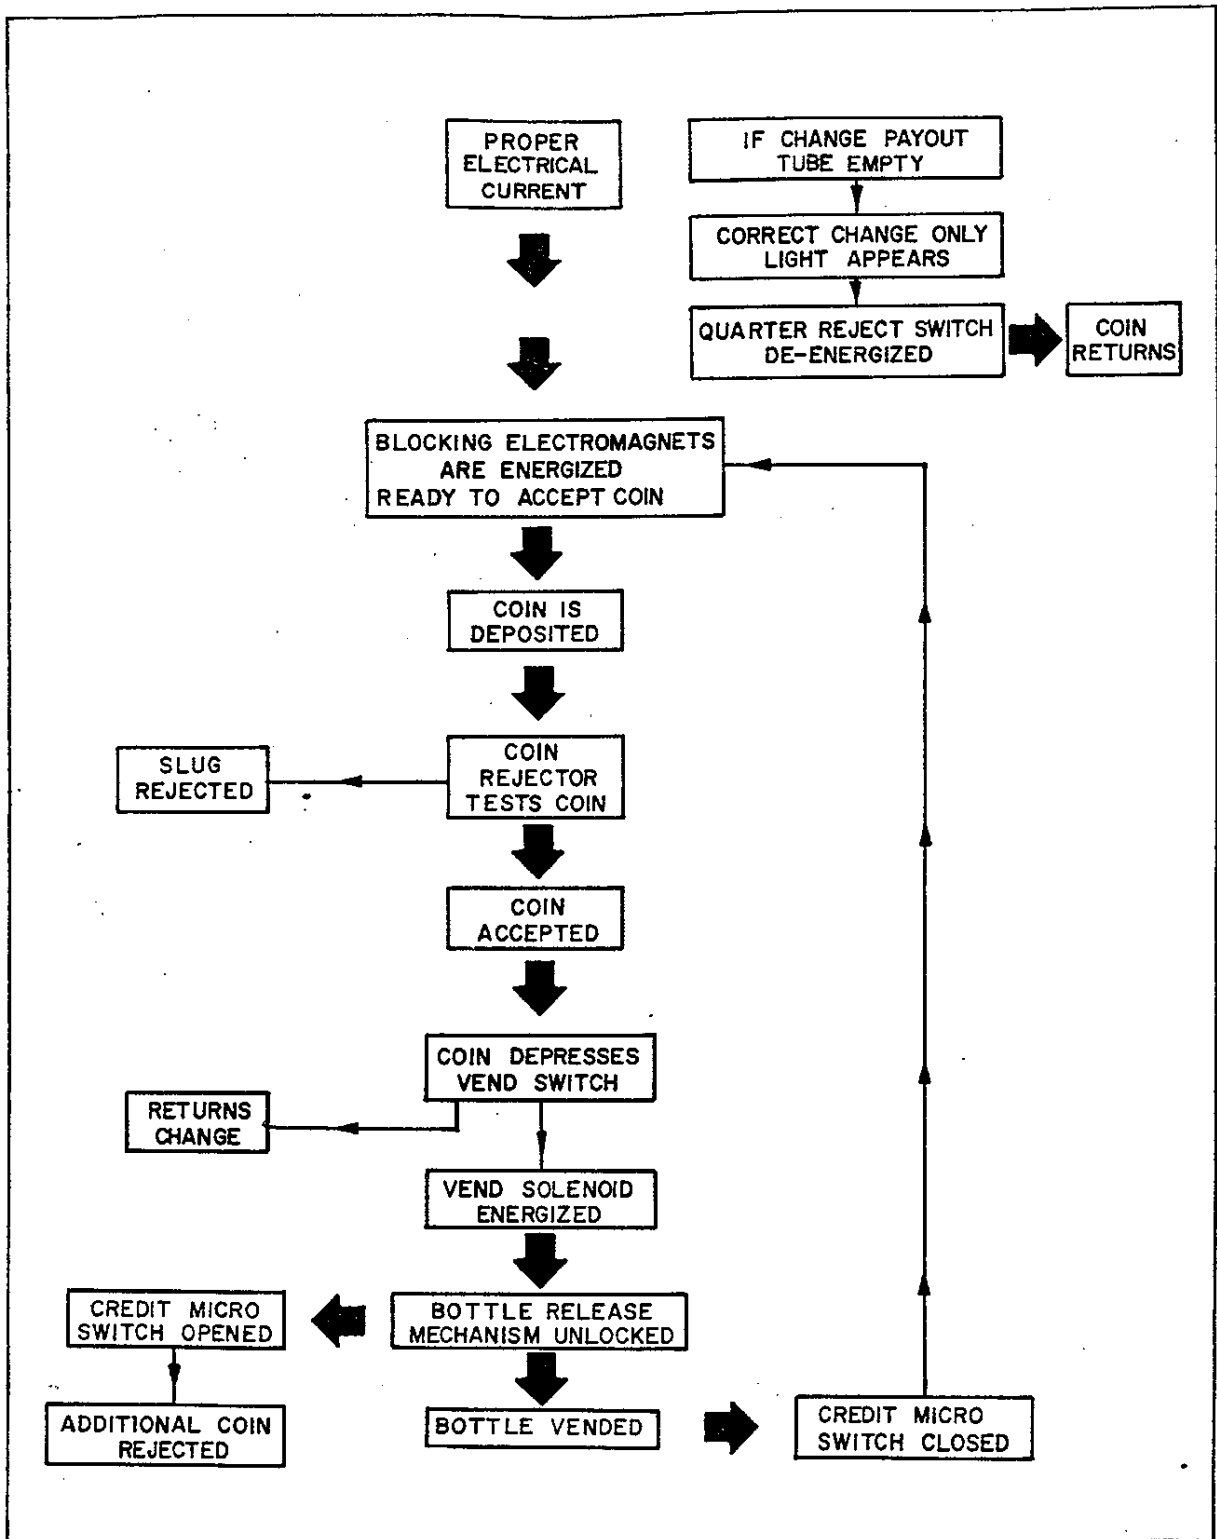

Figure 3-1. Vend Cycle
3.3.1 Figure 3-1 illustrates the sequence of mechanical (block arrows) and electrical (line arrows) events that occur during the vend cycle.